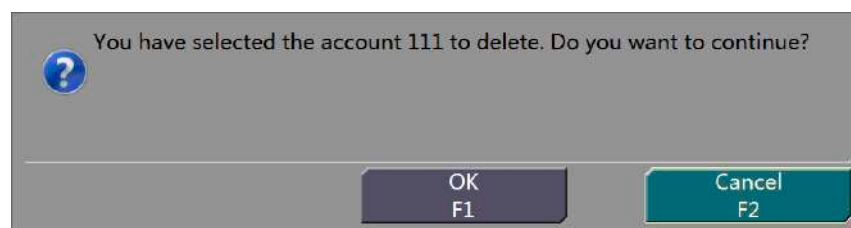

Figure 13-11 Prompt for Deleting User
Step 2 A dialog box is displayed, as shown in Figure 13-11. To delete the user, Click “OK” or press “F1” on the operation keyboard. To cancel the operation and return to the Account Management interface, click “Cancel” or press “F2” on the operation keyboard.